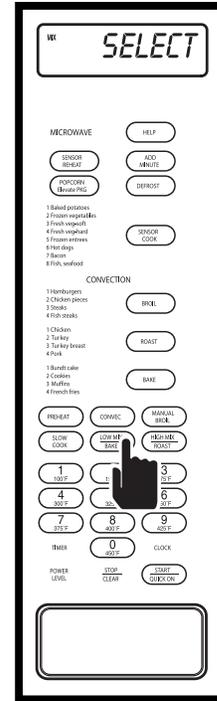

Figure 3-90.
2. Press LOW MIX/BAKE key, "SELECT - TEMP" will flash on display. (See Figure 3-90)